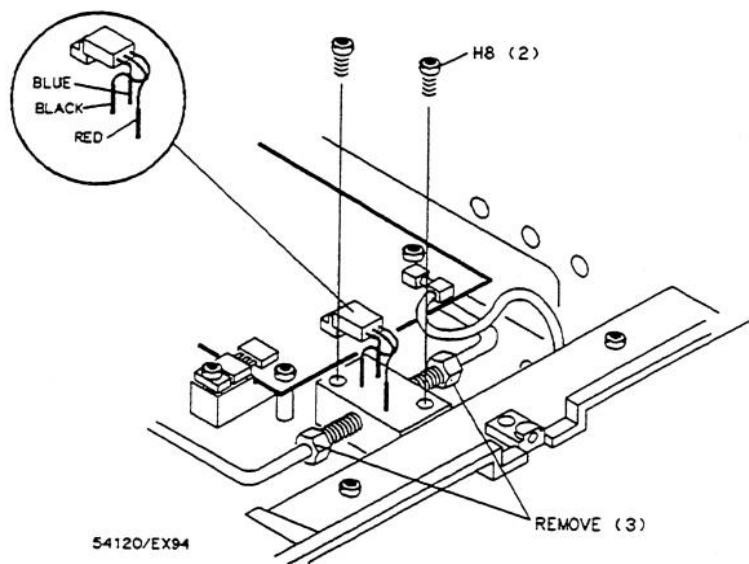

Figure 6-3. Trigger Assembly Removal
2. Disconnect red, black, and blue wires from trigger assembly. Refer to figure 6-3
5. Connect red, black, and blue wires to trigger assembly. Refer to figure 6-3.